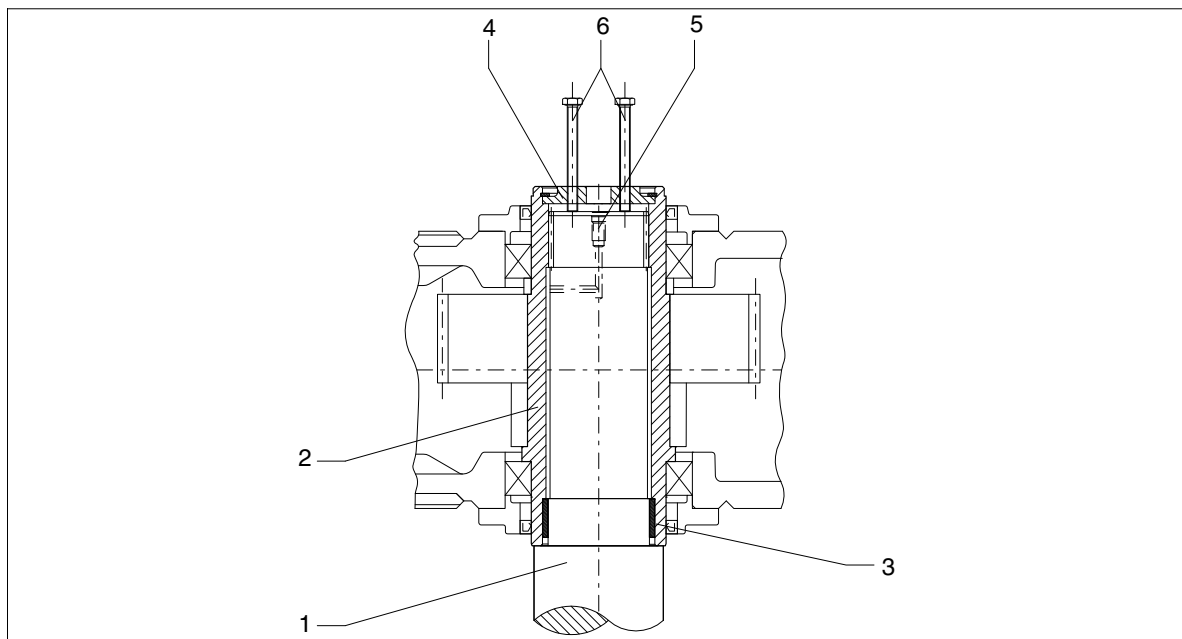

Fig. 57: Hollow shaft with internal spline, demounting with end plate
- preferably using forcing-off screws in an end plate (see figure 57) or